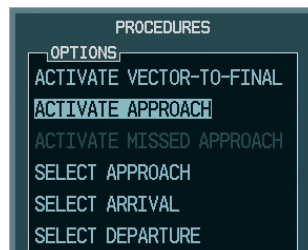

Figure 5-148 Manually Activate Approach
- Turn the large **FMS** Knob to highlight 'ACTIVATE APPROACH' as shown in Figure 5-148.